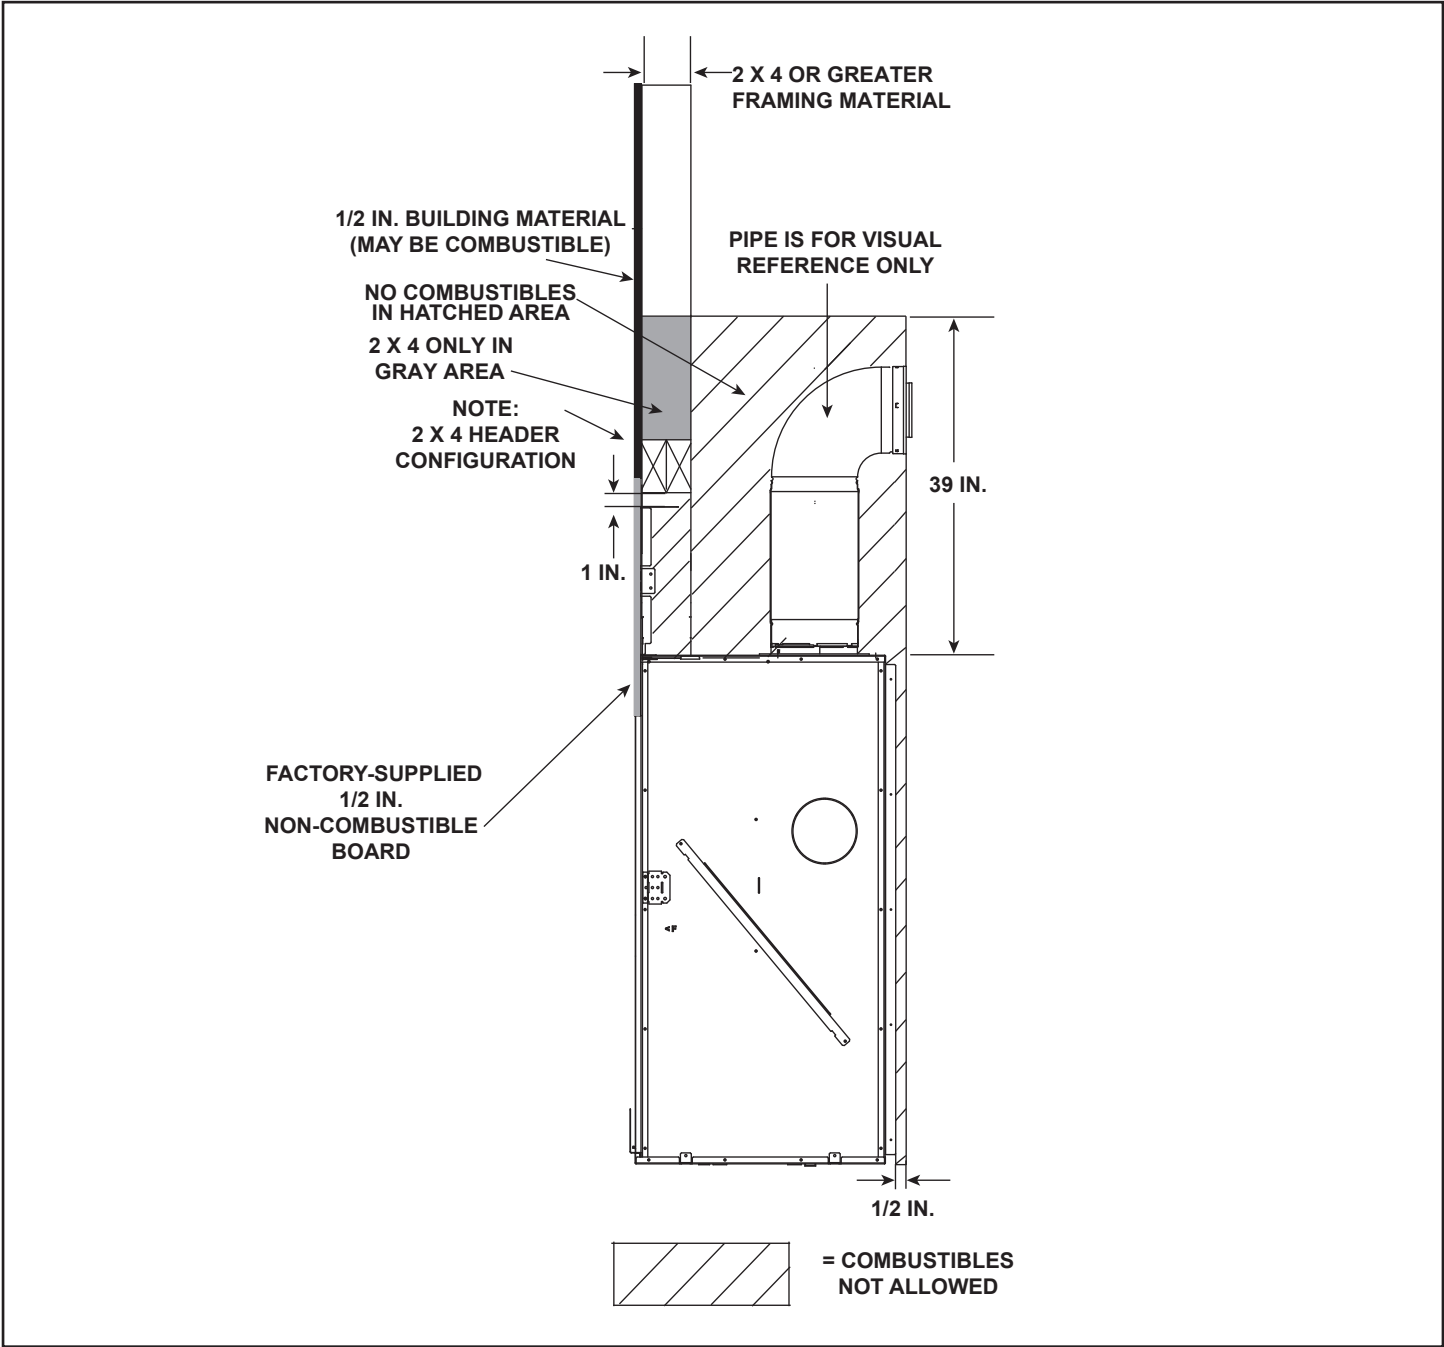

Figure 3.5 Non-Combustible Zone
**NOTE:** 2 X 4 Header positioned vertically. See also Figure 3.5.